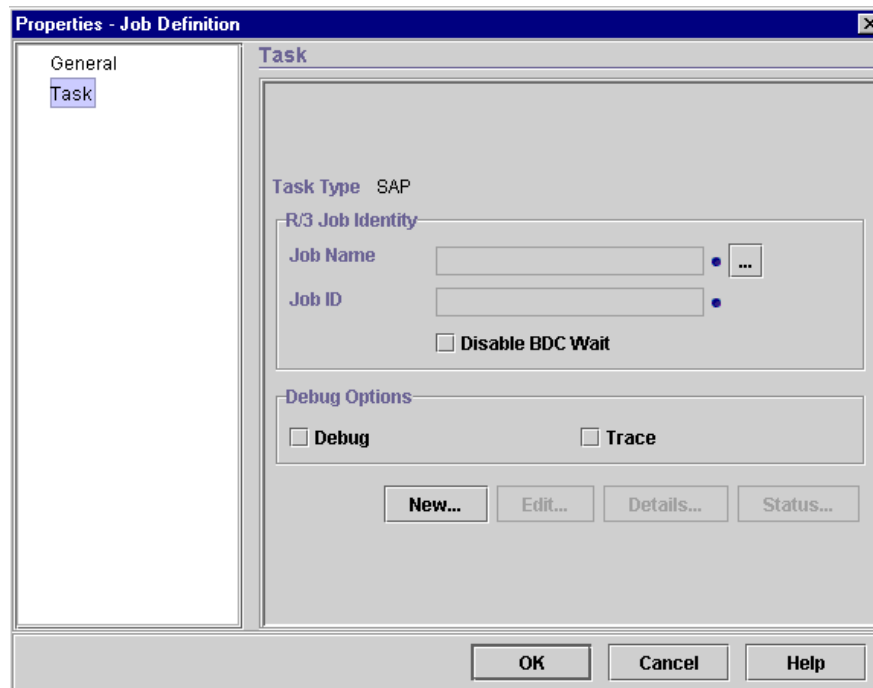

Figure 110. Job Definition (task)
- Click the **Task** tab from the window shown in Figure 110 on page 186.